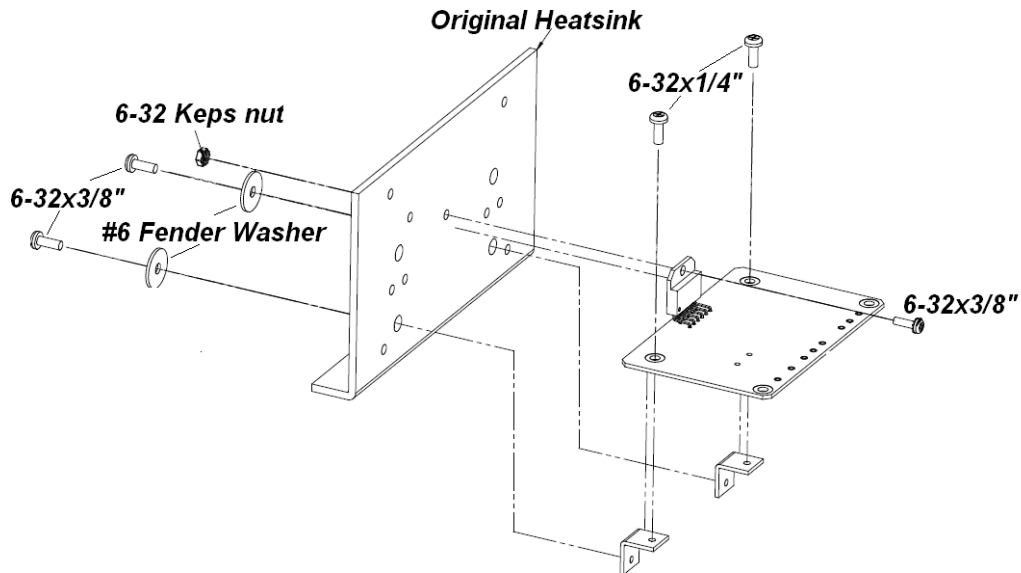
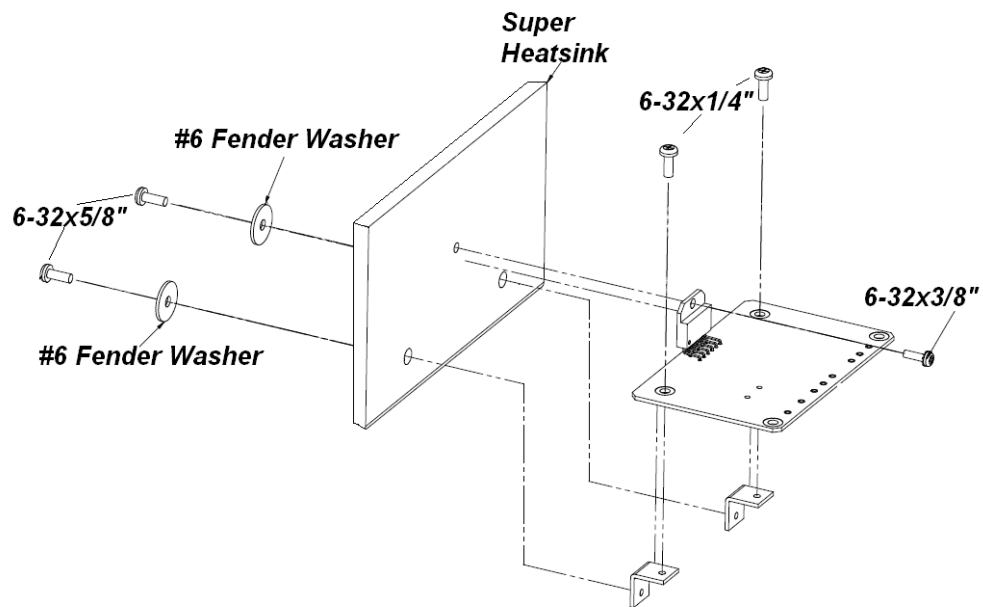

Figure 14-Mounting assembled PCB to original heat sink
Figure 15-Assembling the circuit board to the super heat sink
- a. If using the original heatsinks, see Figure 14
- b. If using super heatsinks, see Figure 15
5. Insert the LM3886 into the PCB and against the heat sink using either 6-32x3/8" screw and nut (Figure 14) or just the 6-32x3/8" into the tapped hole on the super heatsink (Figure 15) depending on your heatsinks.